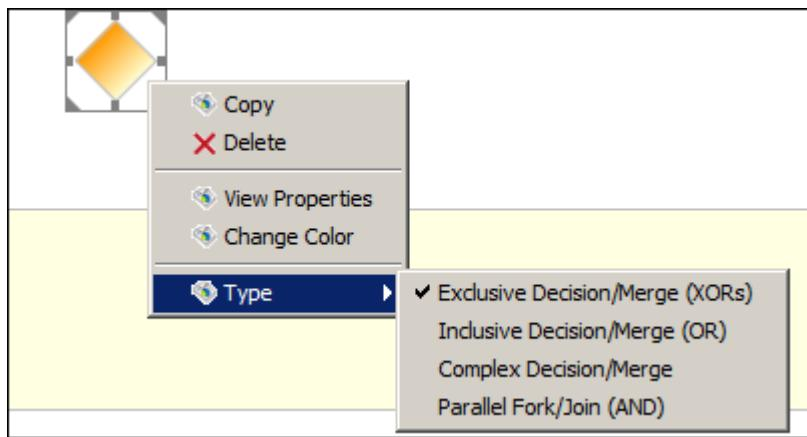

Figure 11: Select Gateway Type
- To select the type of gateway, right click it, point the cursor to the **Type** option and select the type of gateway that you want to use (see Figure 11).